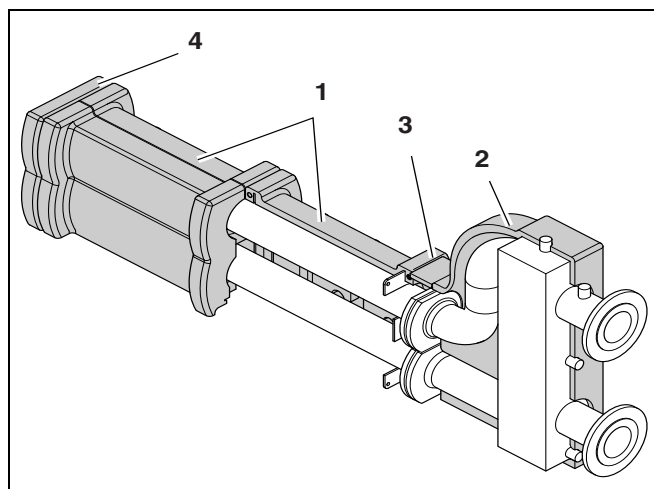

Fig. 10 Header
- Install the rear insulation over the header (→ fig. 10, [1]).
- Install the rear insulation part over the low loss header (→ fig. 10, [2]).
- If required, trim the insulation so that it is straight (→ fig. 10, [3]).
- Install the front insulation of the low loss header. If required, trim the insulation so that it is straight (→ fig. 10, [3]).
- Install the end cover over the header (→ fig. 10, [4]).